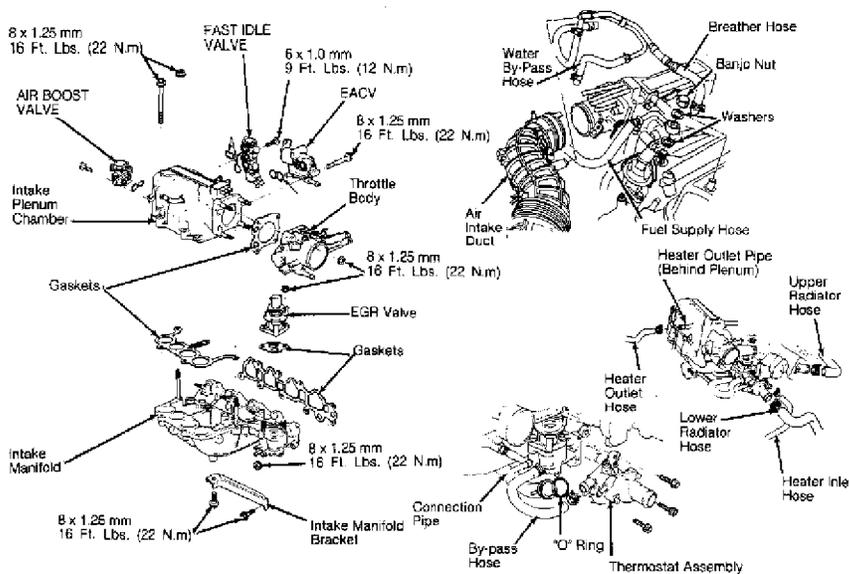

Fig. 5: Removing & Installing Intake Manifold
4) From beneath vehicle, remove splash shield. Remove intake manifold bracket. Remove intake manifold. Remove throttle body and air control components from manifold as required. See Fig. 5. To install, reverse removal procedures. See TORQUE SPECIFICATIONS at end of article.